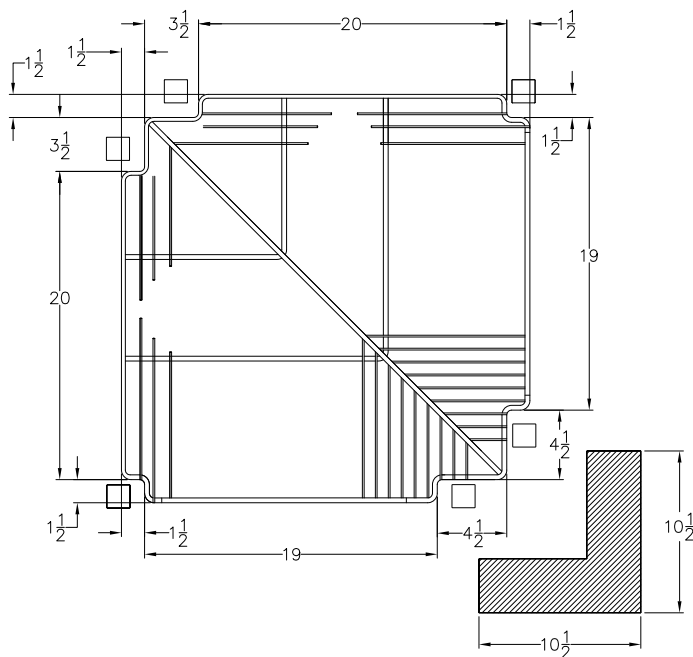
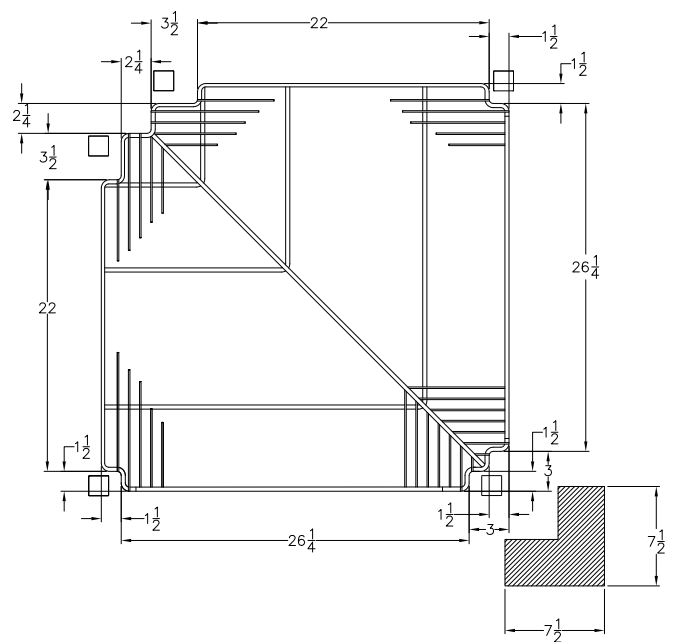
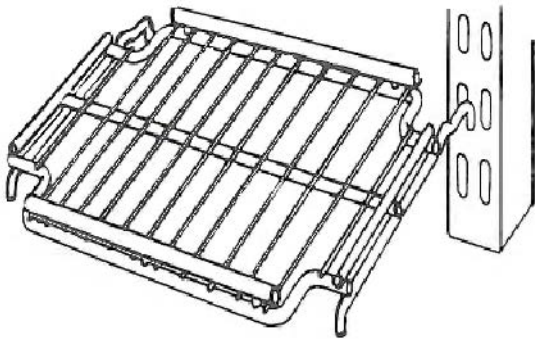

Figure 8 23" Door
Figure 9 26", 28" and 30" Door
Figure 10
4. Installation of corner shelving is the same as standard shelving except some corner shelves will have more posts. Refer to Figure 8, Figure 9 and Figure 10.